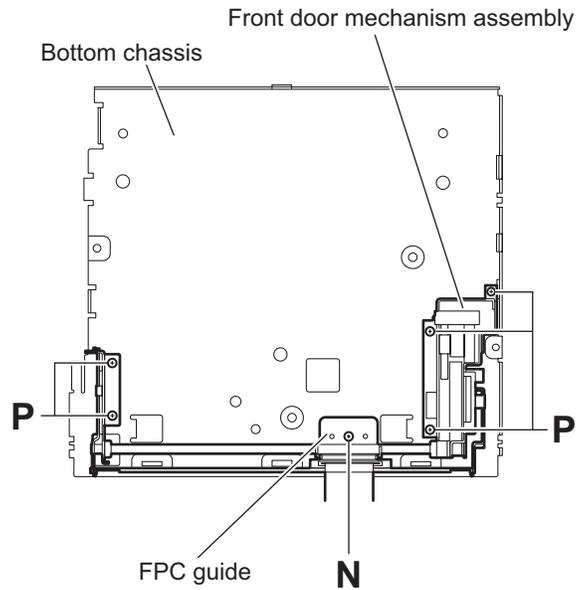

Fig.13
3.1.8 Removing the front door mechanism assembly (See Fig.13)
3.2.7 Removing the loading arm assembly (See Figs.13 and 14)
- From top side of the mechanism section, move the loading arm assembly in the direction of the arrow. (See Fig.13.)
- Release the projections from the right and left joints (**m**, **n**) of the CD chassis assembly. (See Figs.13 and 14.)
- Release the projection from notch **p** of the connect arm on the right side of the mechanism section and release the projection from notch **q** of the slide cam assembly on the left side. (See Figs.13 and 14.)